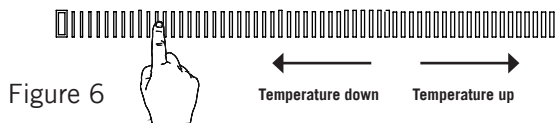

Figure 6
- You can set the temperature by touching the sliding control of the heating zone you desire. (Applies to products with slider control, see Fig. 6)